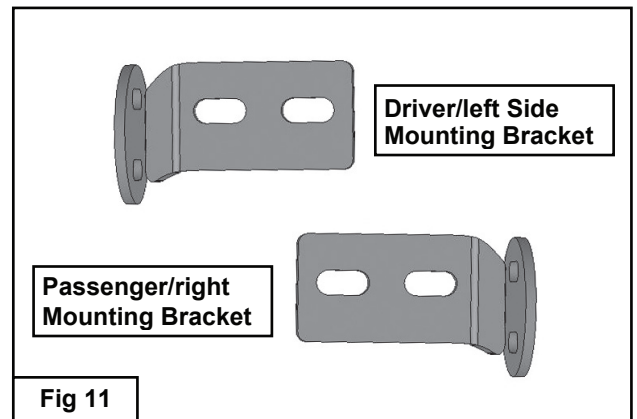
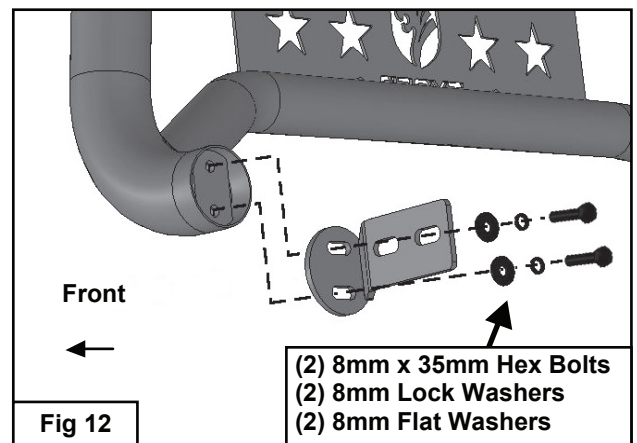

Fig 11
Fig 12
Next, carefully unwrap the Tyger Guard. Select the driver side Mounting Bracket, (Fig 11). Attach the Bracket to the end of the tube with (2) 8mm x 35mm Hex Bolts, (2) 8mm Lock Washers and (2) 8mm Flat Washers, (Fig 12). Center the mounting flange on the Bracket with the end of the tube. Snug but do not tighten hardware. Repeat this Step to install the passenger side Mounting Bracket.